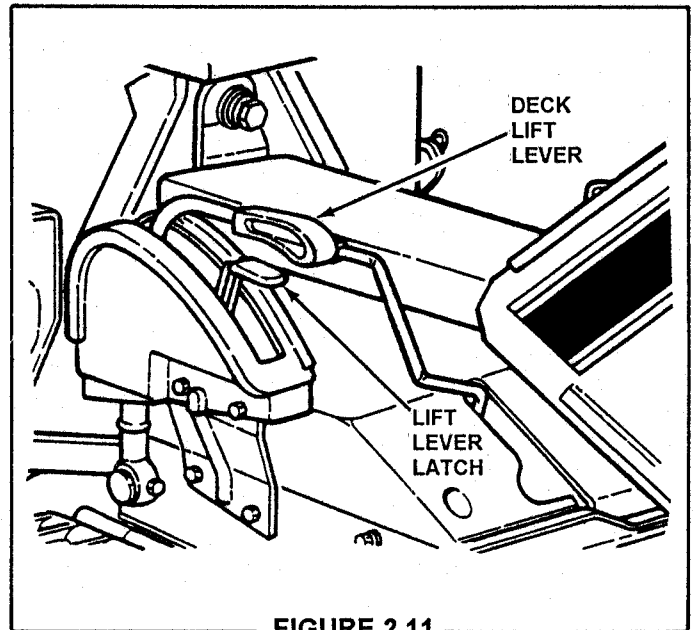

FIGURE 2.11
1. Engage park brake by pushing clutch/brake pedal "DOWN" and moving the park brake lever to the "ON" position. While holding the park brake lever "ON", release clutch/brake pedal to set park brake. See Fig. 2.11.
1. Adjust cutting height as desired to any one of six positions using deck lift lever. When in desired height of cut, release latch, then try to move deck lift lever to ensure lift lever latch is fully engaged. See Figure 2.11.